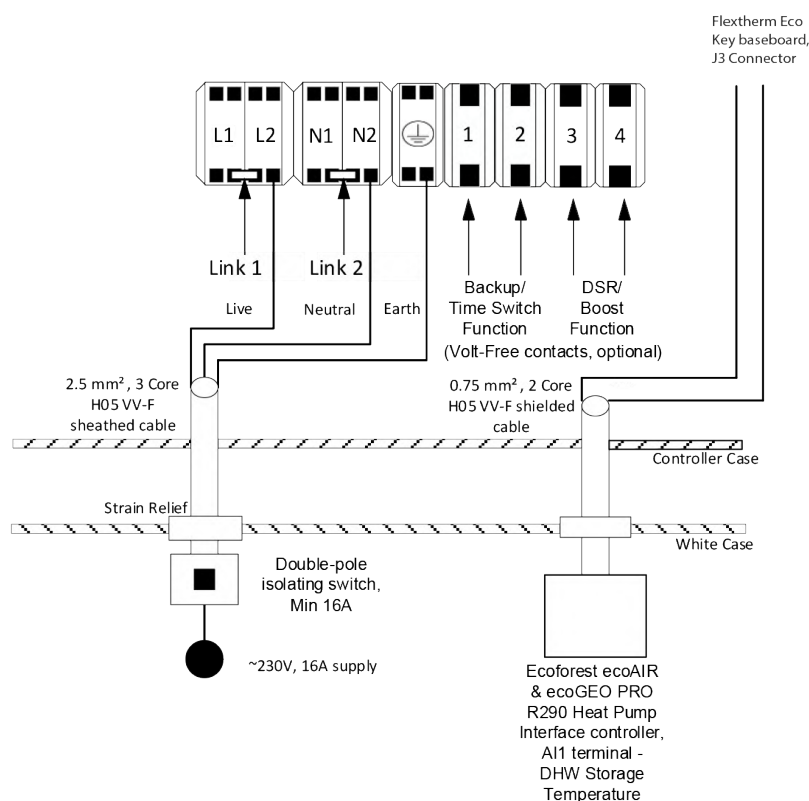

Figure 6: Flextherm Eco G2 D with Ecoforest HP-Key
- Flextherm Eco G2 D with the «Ecoforest HP-key» & «Ecoforest HP+PV-key» (Flextherm Eco G2 D manual - Section 6.4.2 for wiring instructions & Figures 6 & 7 below)
Using a 2-core shielded cable 0.75mm², the cable will act as a hot water heating tank sensor from the Flextherm Eco Board - terminal J3 into the Heat Pump controller PCB Terminal - (AI1 - DHW Storage Temperature) (please refer to HP installation manual). Please run the wire into the heat battery appliance via the appliance case cabling grommets and then into the control box housing through the hole available. Secure the cables in terminals J3 on the Flextherm Eco Board; please see Figures 6 & 7 below for reference.